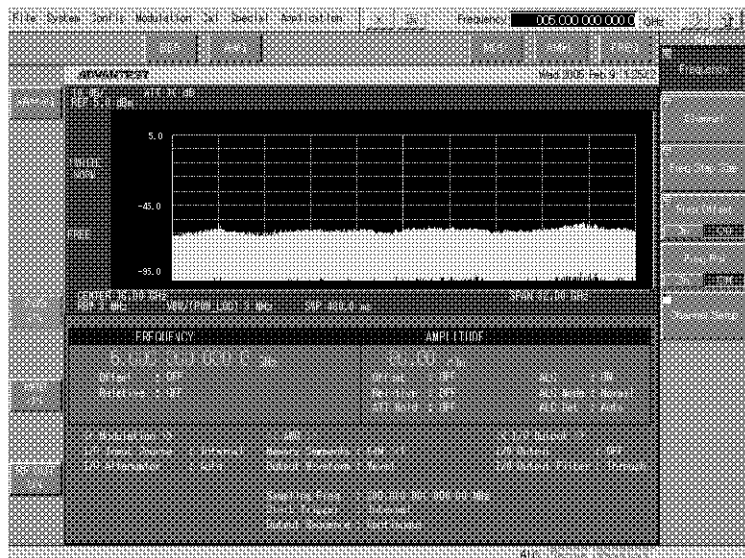

Figure 3-9 AWG+SG Initial Setting Screen
6. Touch the **[Config]** button on the menu bar and select **[AWG+SG Option]** on the drop down menu. The screen shown in Figure 3-9 will be displayed.
Depending on the state of setting when the power supply was turned off last time, the display screen may differ from Figure 3-9.